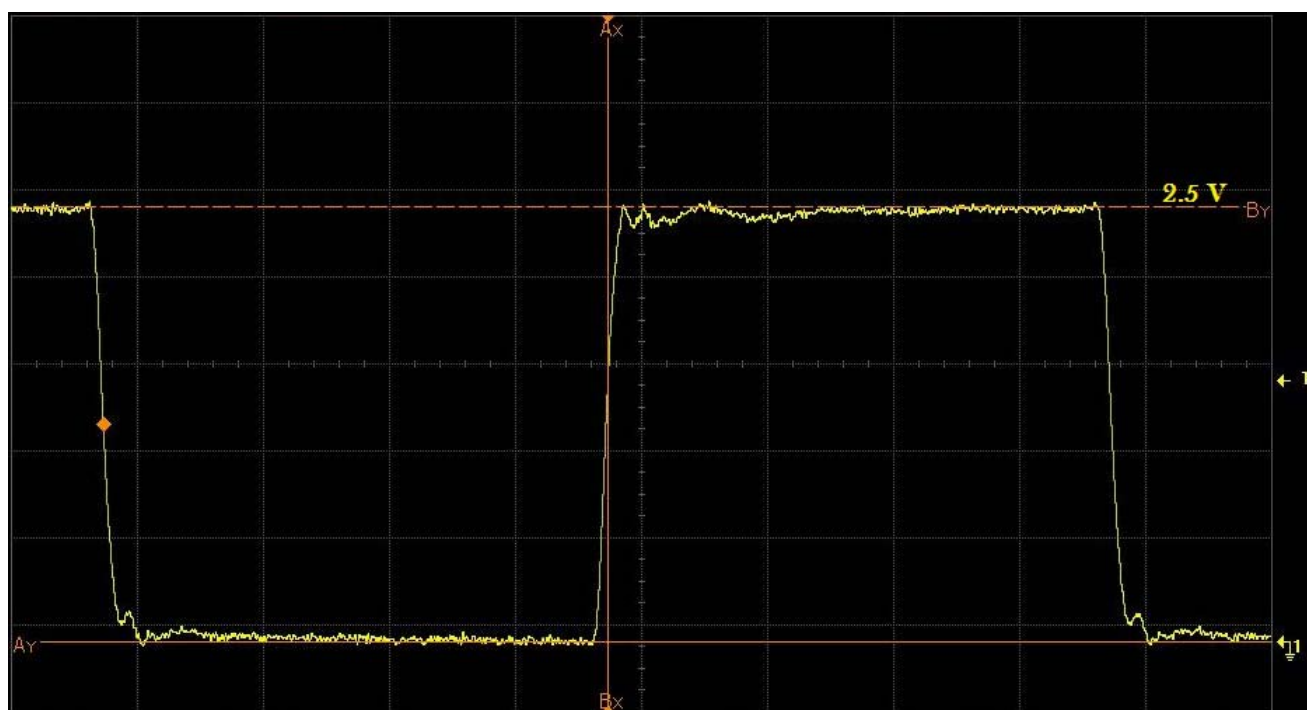

Figure 2. Rev A device (75  $\Omega$  Driver) into 80  $\Omega$  Trace
- Figure 2—Rev A device (2.5 V, 75  $\Omega$  driver) driving an 80  $\Omega$  trace